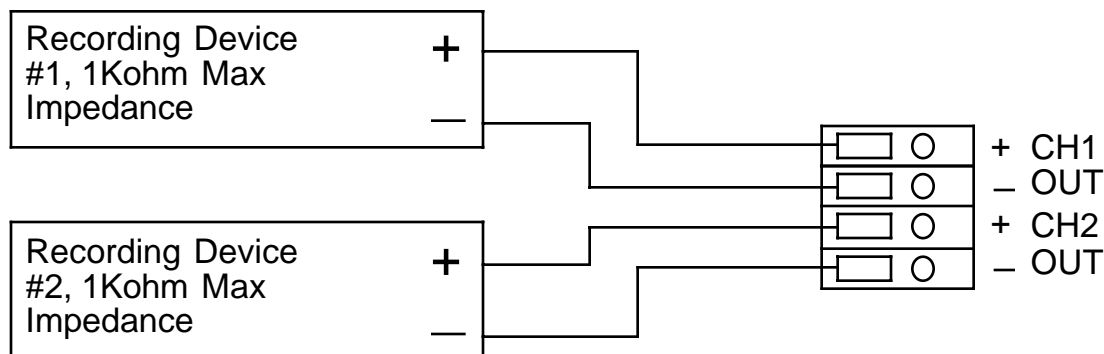

Figure 9. Recorder Output Wiring
5. Connect the wires from the recording device to the recorder output terminals as shown in Figure 9.